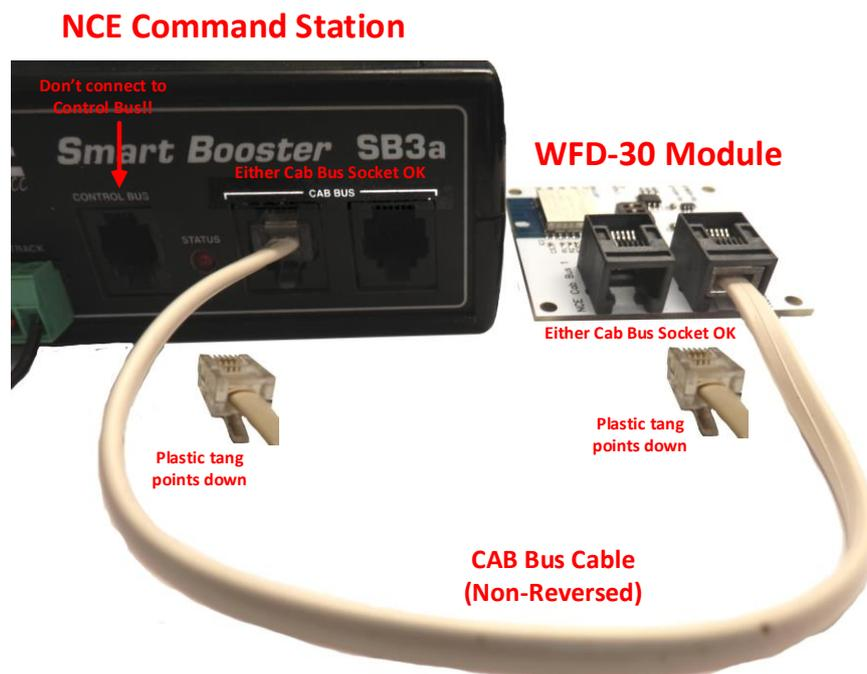

Figure 2 Connecting the WFD-30 Module to your NCE Command Station
- (2) Mounting:** Mount your WFD-30 Module in a convenient location where nothing metal will touch it, either in a plastic box or at a convenient location on your baseboard or fascia. Please see the “Mounting Suggestions” section. As a minimum, make sure it will not be dragged around by pulling on a connected cable and touch on some metal object. **Do not let the unit touch powered track or it may be damaged beyond repair!**
- (3) Connect:** Use an NCE Cab Bus cable to connect to your NCE Command Station as in Figure 2. Make sure your NCE Command Station is connected to power and track or booster according to its instructions. Turn on power to your NCE Command Station. The WFD-30 module gets its power from the command station via the CAB Bus. If you are using an NCE Power Cab in “Master” mode, you must connect the flat cable supplied with the Power Cab to the **left-hand** socket of the Power Cab Panel (PCP) use the coiled cable to connect your WFD-30 to the **right-hand** socket of the Power Cab Panel.